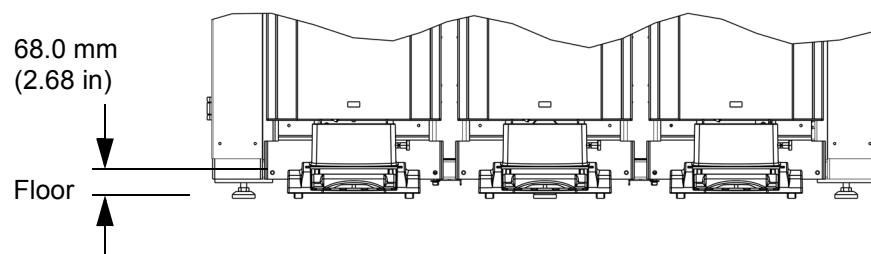

Figure 4-3: Setting Jet System Frame Height (300mm System Shown)
5. Check the distance between the left-most lower BOLTS mounting hole and the floor. Adjust the three leveling feet equal amounts so that the distance measures 68.0 mm (2.677 in). See Figure 4-3.